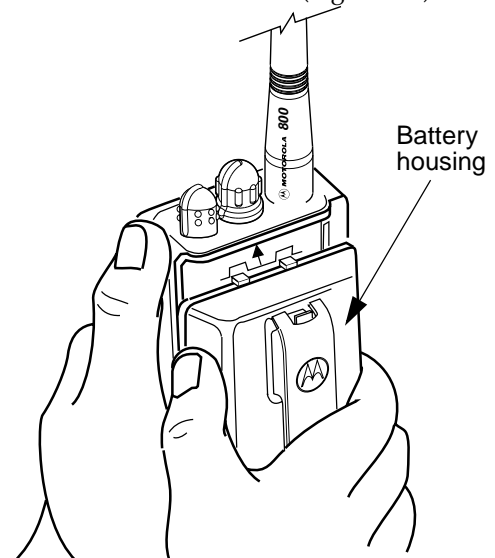

Figure 1-2. Slide Battery Housing
2. Press the battery housing against the radio, while sliding the battery housing down until it is free of the chassis rails (Figure 1-2).